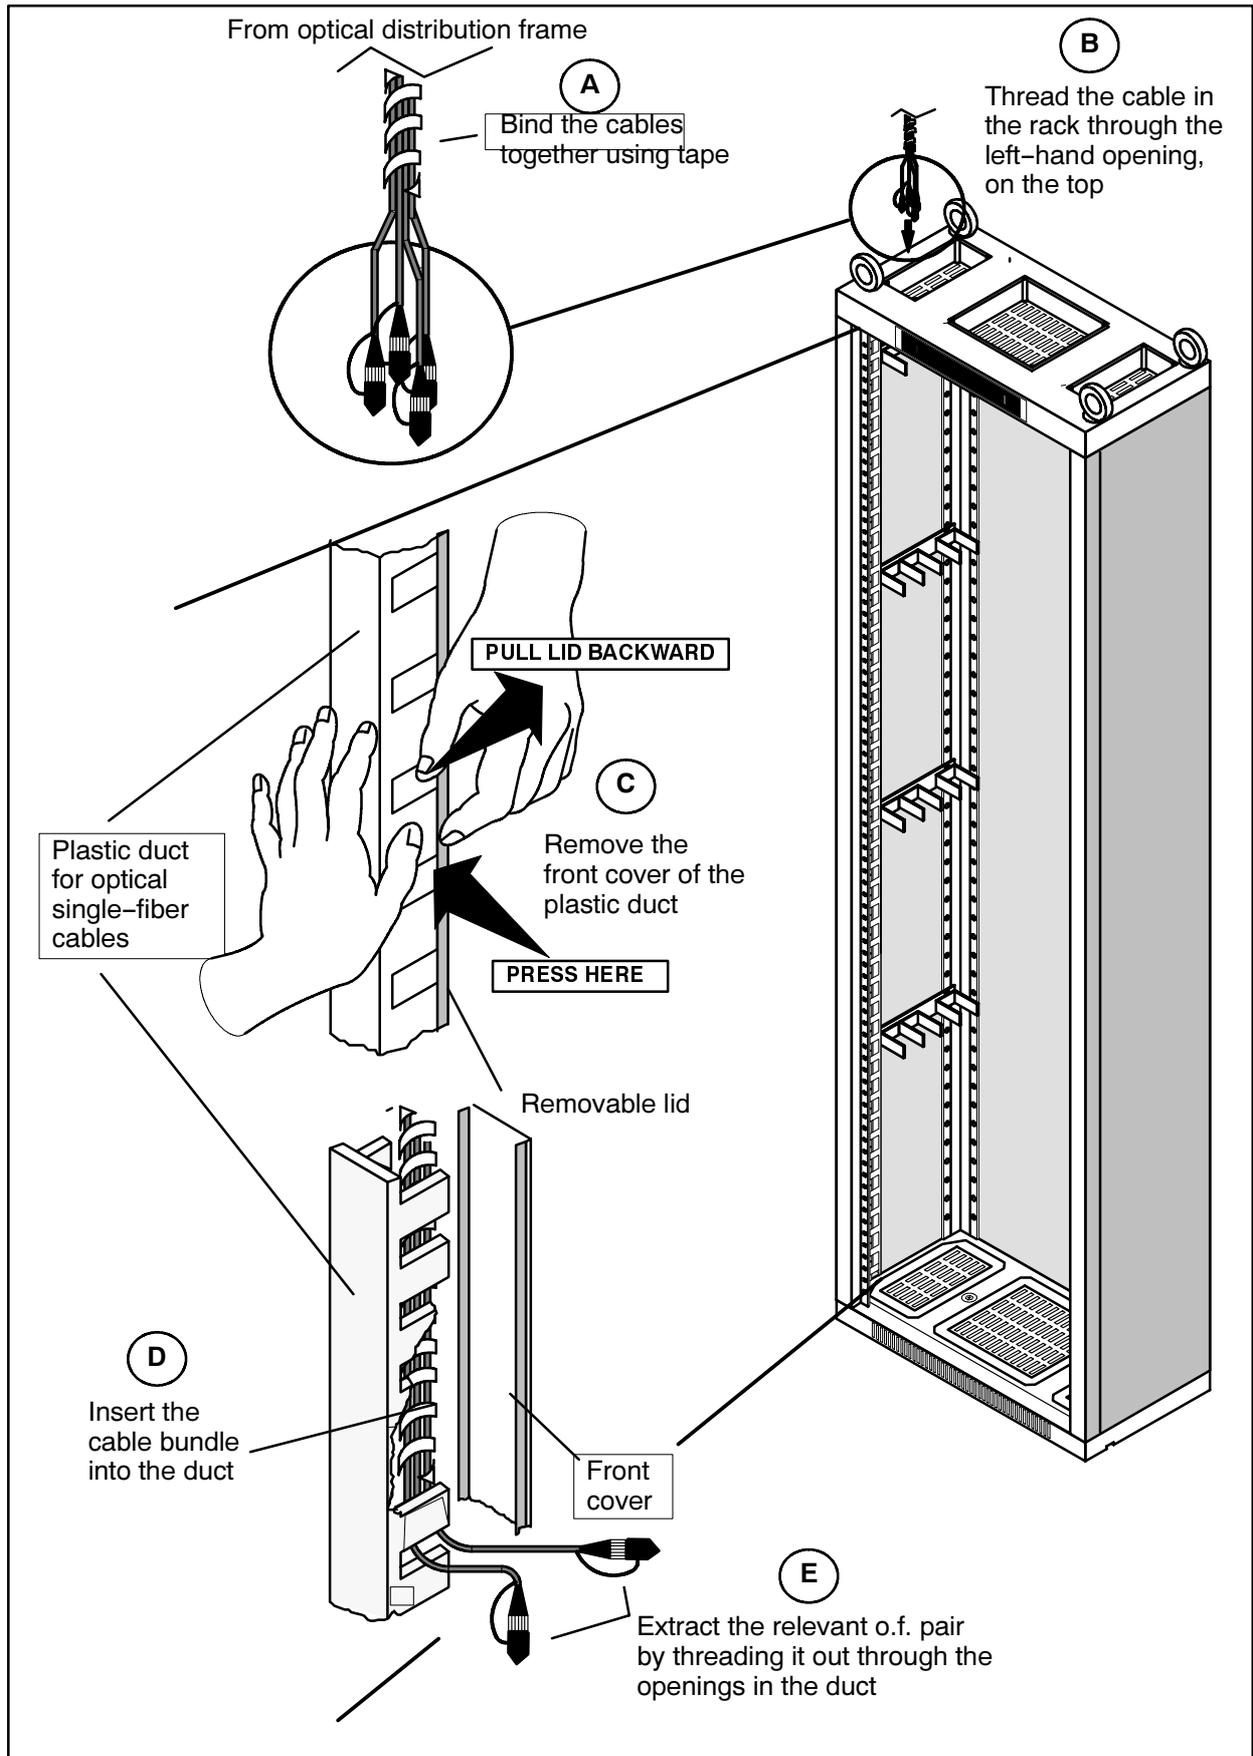

Fig. CK-7 Installation of optical single-fiber cables – entry through top opening
1. Bind the cables together using tape (Fig. CK-7 A).
2. Thread the cable in the rack through the left-hand opening, on the top or in the base depending on how the cables have been laid. Fig. CK-7 B illustrates o.f. cable through the top opening.
3. Remove the front cover of the plastic duct on the left-hand side of the rack by proceeding as follows (see Fig. CK-7 C):
4. Insert the cable bundle into the duct (see Fig. CK-7 D).
5. At the height of each subrack to be equipped with optical units, extract the relevant o.f. pair by threading it out through the openings in the duct (see Fig. CK-7 E).